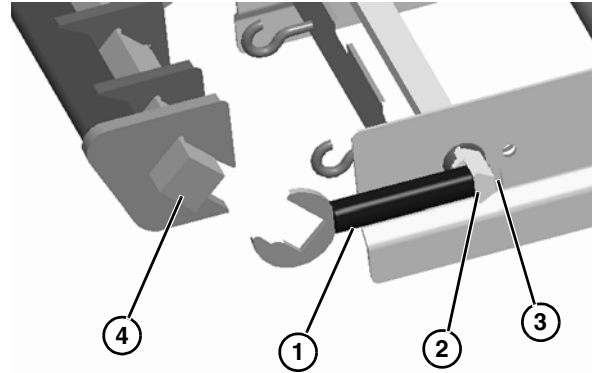

Figure 24
1. Place the nose bar idler shafts (Figure 24, item 1) against the holes in the hex shaft assembly (Figure 24, item 2) and secure each with a bolt (Figure 24, item 3).
2. Attach the nose bar transfer post (Figure 24, item 4) to the nose bar idler shafts.